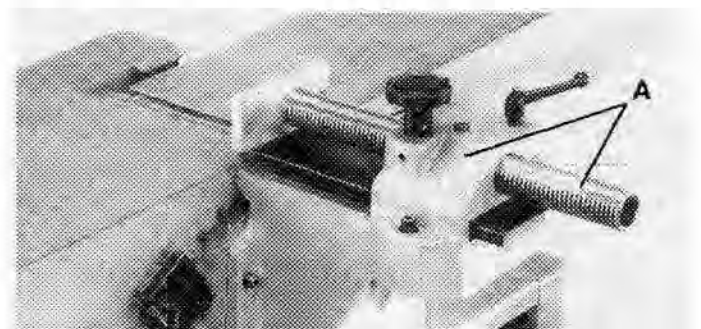

FIGURE 10
2. Fig. 10 illustrates the fence carriage assembly (A) properly mounted to the jointer.